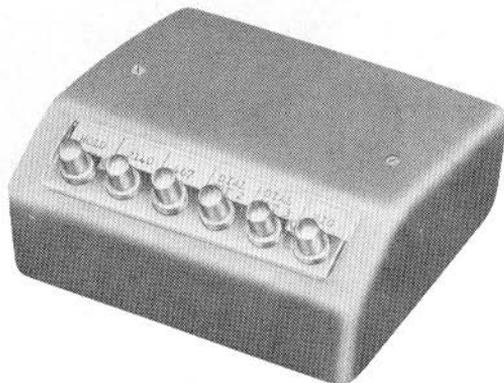

Fig. 1—6040-Type Key
1.01 This section contains information for 6040-, 6041-, 6050-, and 6051-type keys (Fig. 1, 2, and 3).